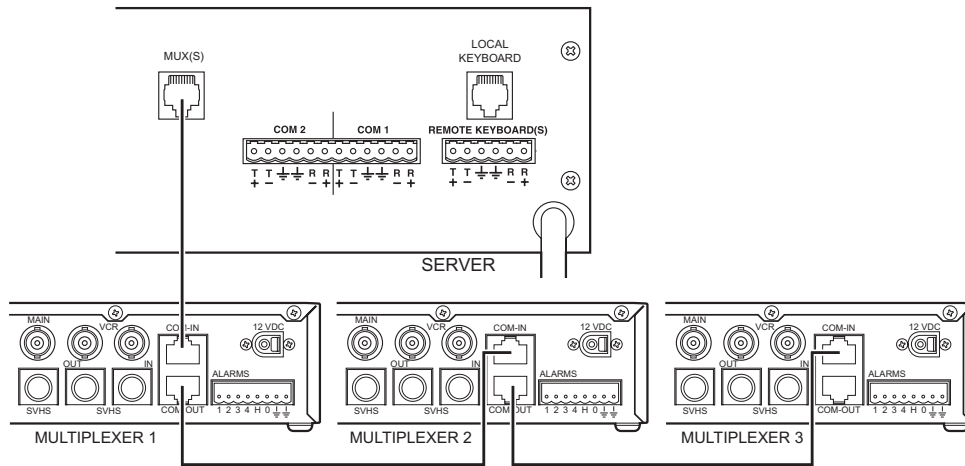

Figure 14. Daisy Chaining Multiplexers to the Server
3. If you are going to daisy chain multiplexers (16 maximum), use the 6-foot (1.8 m) data cables supplied with the multiplexers (refer to Figure 14). Connect a cable from the first multiplexer's COM OUT port to the second multiplexer's COM IN port, then connect the second multiplexer's COM OUT port to the third multiplexer's COM IN port. Continue to unit 16 if necessary.
1. Remove the DIP switch cover plates on the backs of the keyboards. Set the DIP switches (refer to Figure 14). Replace the plates.
3. If you are going to daisy chain multiplexers (eight maximum), use the 6-foot (1.8 m) data cables supplied with the multiplexers (refer to Figure 14). Connect a cable from the first multiplexer's COM OUT port to the second multiplexer's COM IN port, then connect the second multiplexer's COM OUT port to the third multiplexer's COM IN port, etc. Continue to unit 8 if necessary.